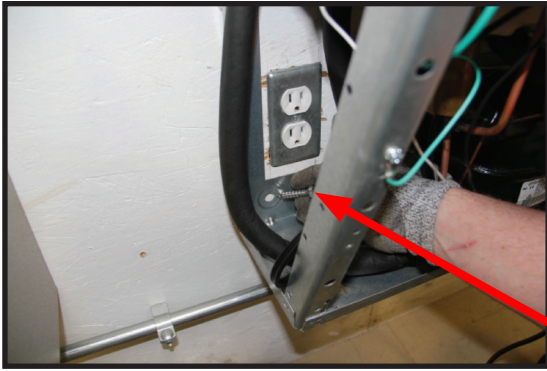

FIG. 2
3. Secure cooler frame to wall by installing (2) screws and washers (not supplied) in lower holes. (See Fig. 2, Pg. 13). Make sure the screws engage in a structural member.